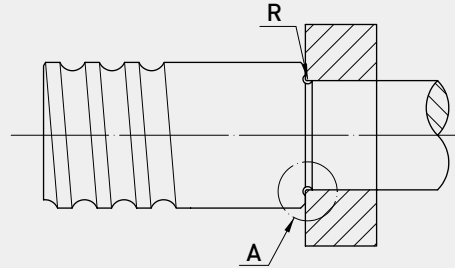
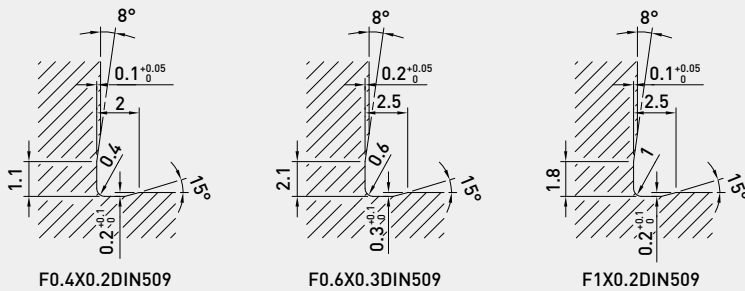

Fig 4.10 Chamfer for seating the face of bearing end
Fig 4.11 Suggested chamfer dimension per DIN 509 for the "A" dimension in Fig 4.10
- (12) As shown in Fig 4.10, the support bearing must have a chamfer to allow it to seat properly and maintain proper alignment. HIWIN suggests the DIN 509 chamfer as the standard construction for this design (Fig. 4.11).